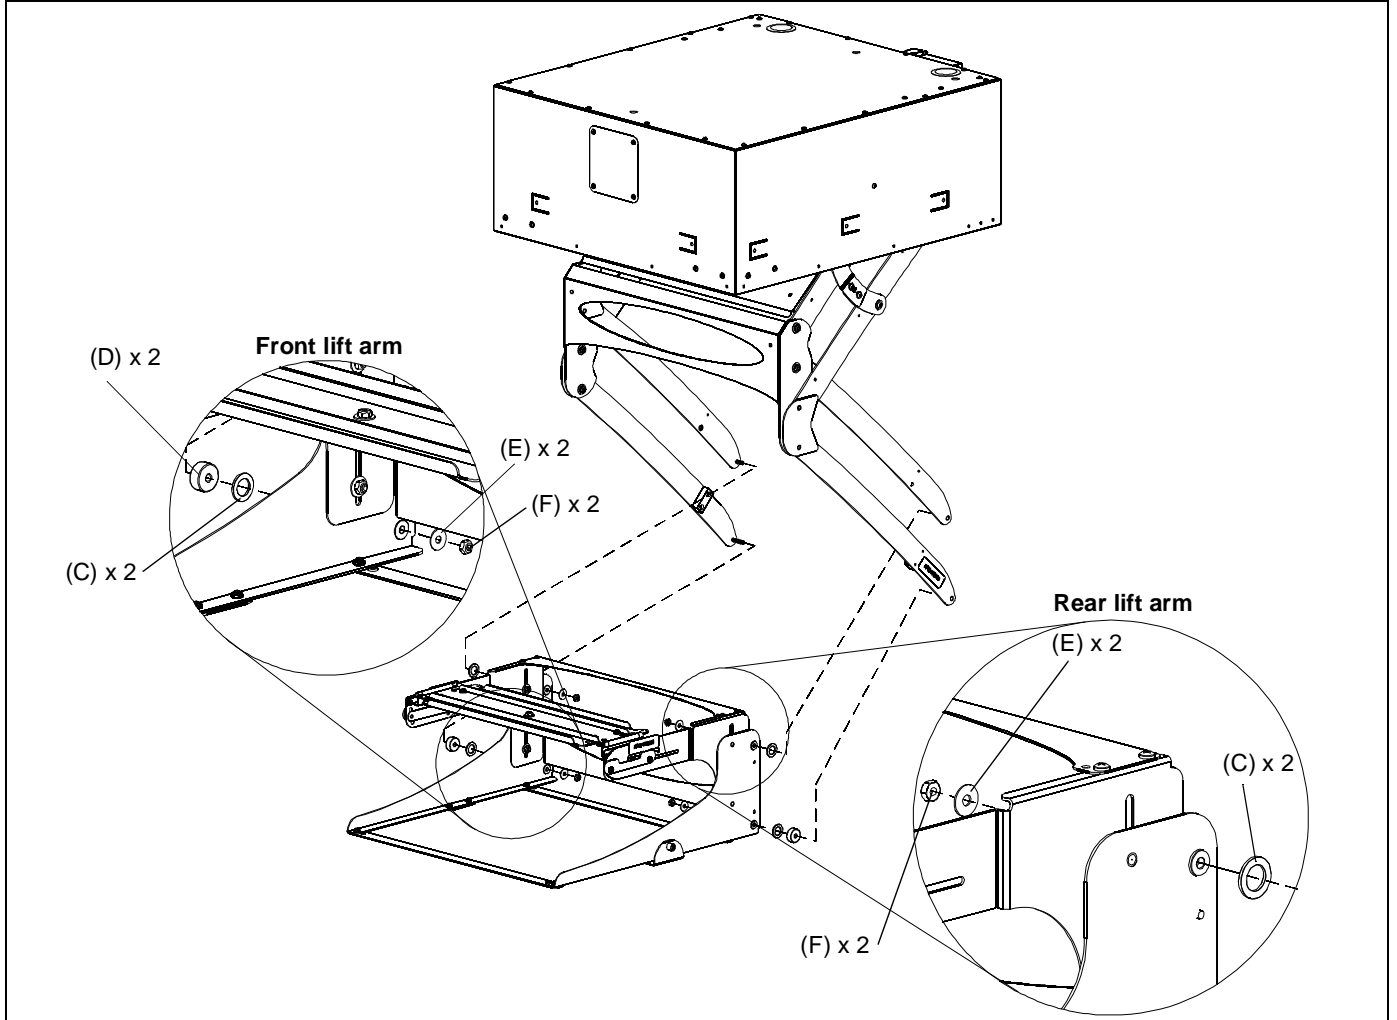

Figure 13
13. Reinstall projector cradle to SL236 lift. (See Figure 13)
- Use two nylon spacers (C), two flat washers (E) and two locknuts (F) for rear lift arms.
- Use two steel spacers (D), two nylon spacers (C), two flat washers (E) and two locknuts (F) for front lift arms.